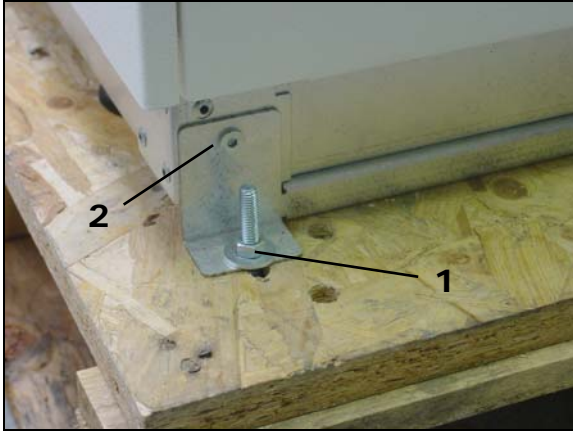

Figure 4-3
2. Slightly loosen the two screws (1) that fix the front bracket to the base of the pallet (Figure 4-3).
5. Completely unscrew and remove all screws and nuts (1 and 2) that fix the rear bracket to the base of the pallet (Figure 4-3).